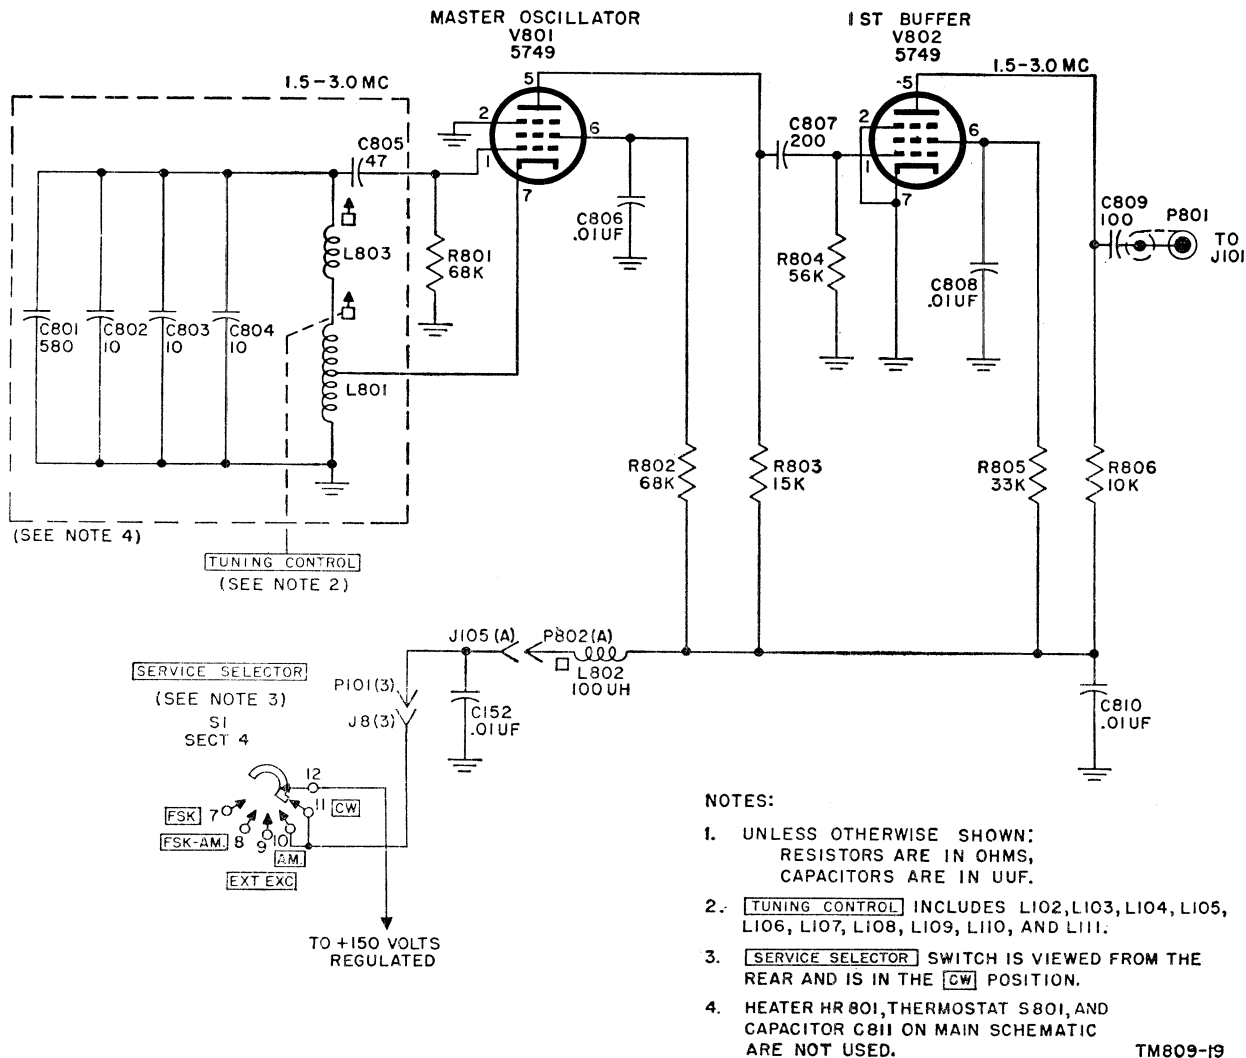

Figure 28. Master oscillator and first buffer, functional diagram.
54. Master Oscillator and First Buffer Stages (fig. 28)